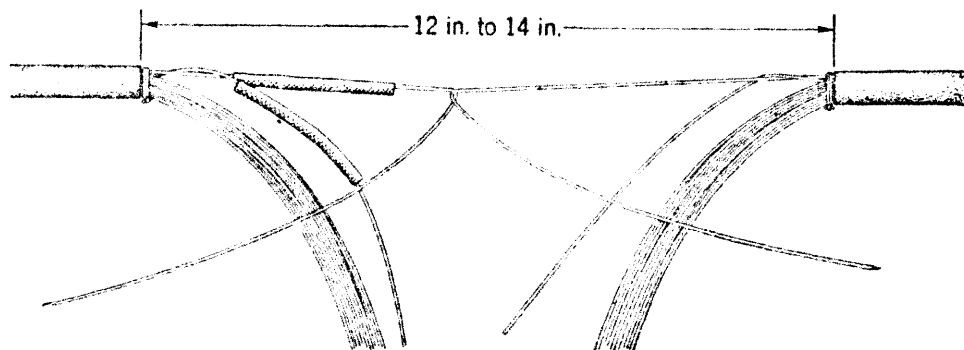

Fig. 3.
3.08 To prevent cables from creeping together when wires are being joined, securely fasten ends of cables by tying them to a supporting surface. The distance at which to space cable butts is shown in Fig. 3.
3.11 Mark the point at which insulation is to be broken by bringing wires together and giving them a sharp twist as shown in Fig. 3.